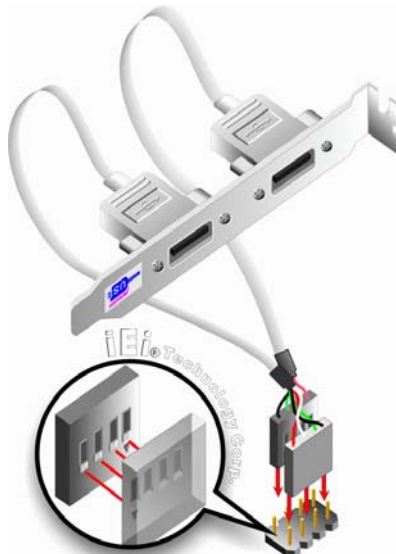

Figure 5-15: Dual USB Cable Connection
Step 3: Insert the cable connectors. Once the cable connectors are properly aligned with the USB connectors on the IMB-Q354, connect the cable connectors to the onboard connectors. See **Figure 5-15**.